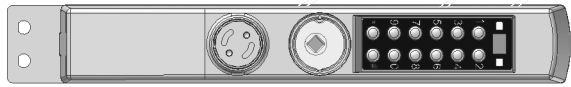

Figure 11
5. Orient the lock to keep the Key Override Cam clear and insert the new cylinder (**Fig 11**).